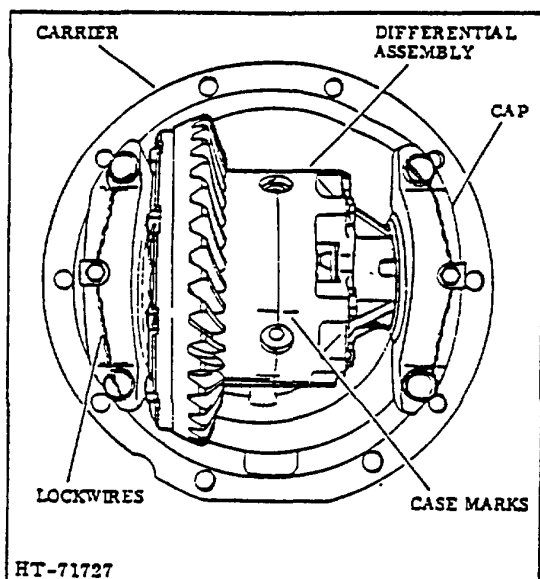

Figure 14). Differential and Carrier Assembly
The differential case and carrier consists of two parts, the carrier assembly and the differential assembly. (See Figure 14). The carrier assembly is mounted at the center of the drive unit housing, and encloses the pinion gear from the drive shaft. The bevel ring gear is bolted to the differential case and the case in turn houses the spider gears.
9. Mark the bearing caps and differential housing (Figure 14) to aid in proper alignment during reassembly; then remove the lock-plazas, securing capscrews, cotter pins and the retaining bearing caps.
Make sure case match marks are aligned. See Figure 14.